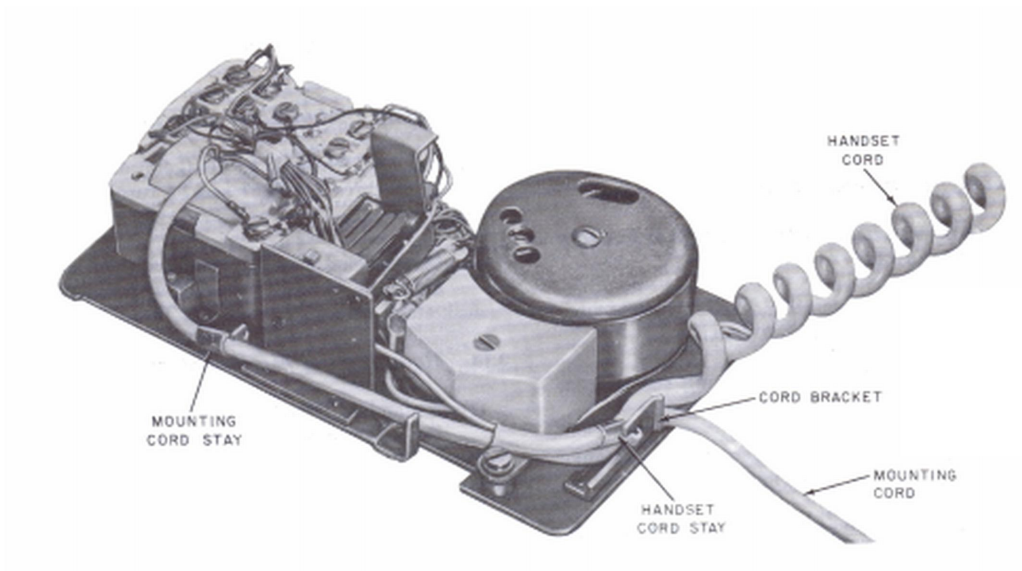

Fig. 5—Installation of Mounting and Handset Cords
- (3) Install set end of appropriate cord to 581A base, secure cord stay, and route cord as shown in Fig. 5.
- (4) Terminate cord as shown in appropriate connection figure.
- (1) Install set end of H4CJ handset cord, lay on top of mounting cord and secure cord stay to base as shown in Fig. 5.
- (1) A standard D3BN mounting cord is required for connections between the line wire, connecting block and the 581A base network terminals unless inside wire can be terminated directly in wall mounted subset. A D6AA mounting cord must be used to provide the connections between the 581A base and customer's desk stand set, except for party line service where a D10R mounting cord is required.
- (2) Install set end of D3BN and D6AA mounting cords to 581A base, secure cord stay and route cord as shown in Fig. 5. D6AA cord can lay on top of D3BN cord.